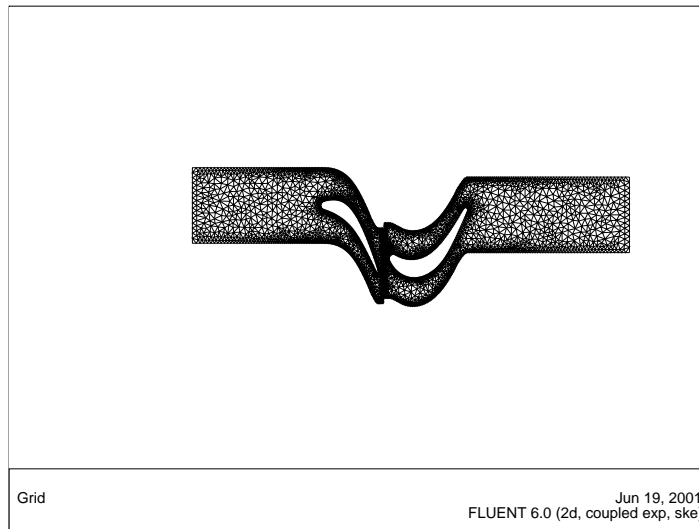

Figure 10.2: Rotor-Stator Mesh Display
5. Display the grid (Figure 10.2).